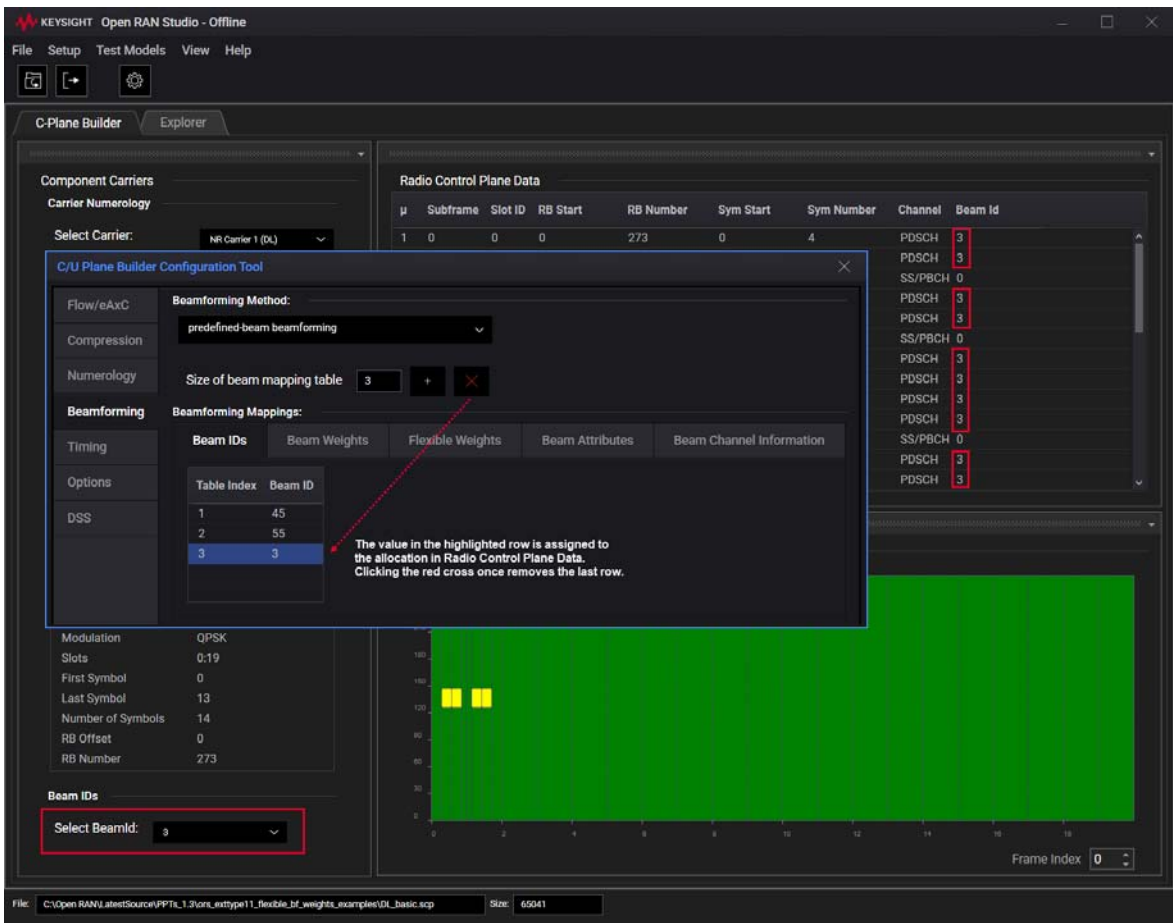
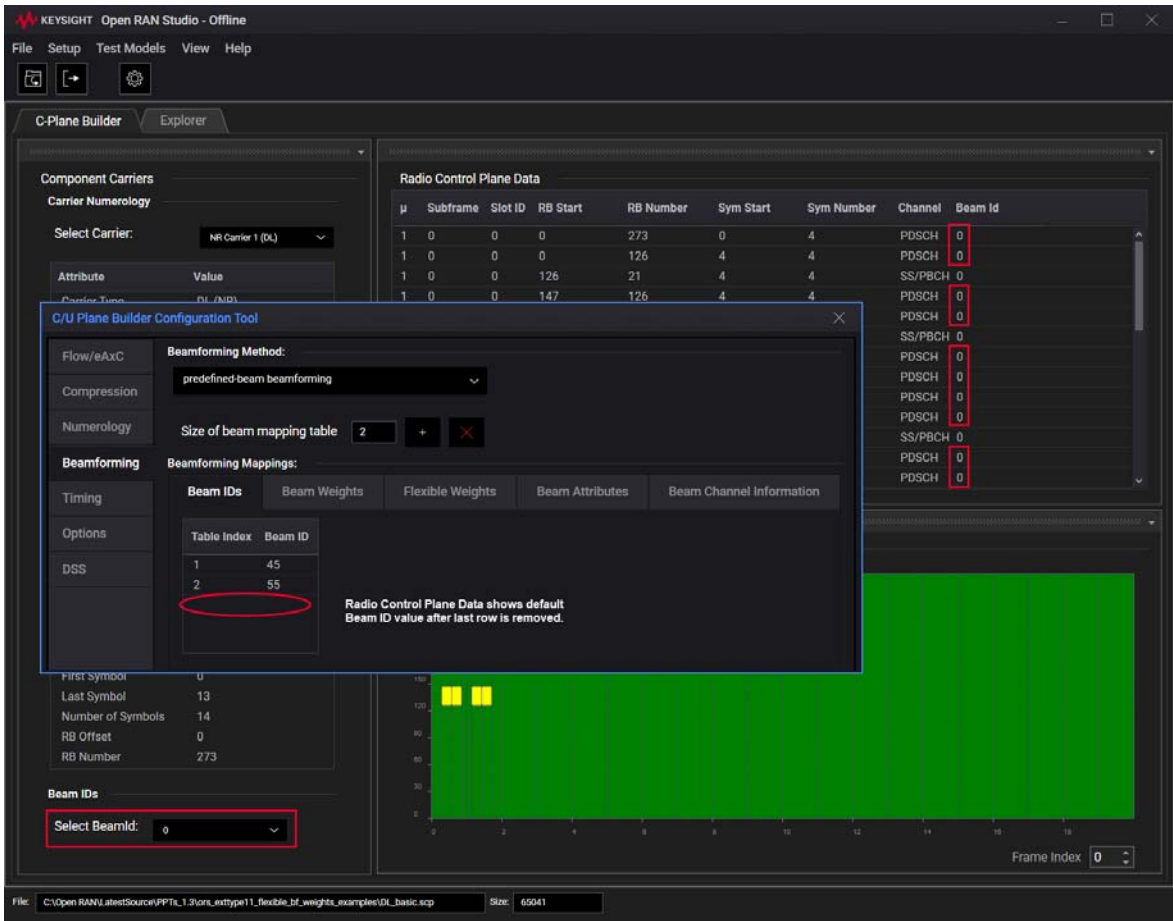

Figure 297 Removing Table Index row having Beam ID value assigned to an allocation
Figure 298 Default Beam ID updated in the Radio Control Plane Data
- f After you assign a specific Beam ID value to one or more Radio allocations, removing the Table Index row in the C/U Plane Builder Configuration Tool resets the Beam ID value to '0' (default) in the Radio Control Plane Data for the corresponding allocations, as shown in Figure 297 and Figure 298.